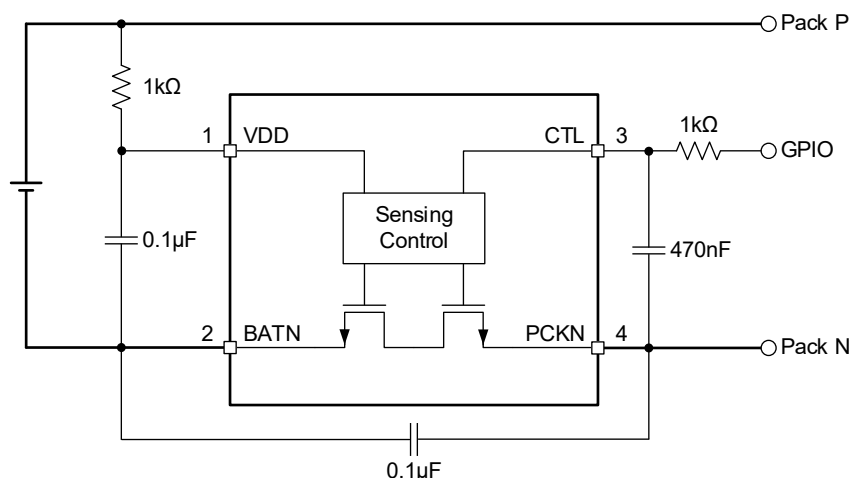

Figure 1. Simplified Schematic
4. The device is tested after being installed on the circuit board in Figure 1. Clip a 4.5V, 5A power source onto the Pack P and BATN to simulate a battery and short the Pack P and the Pack N with an 80mΩ wire.